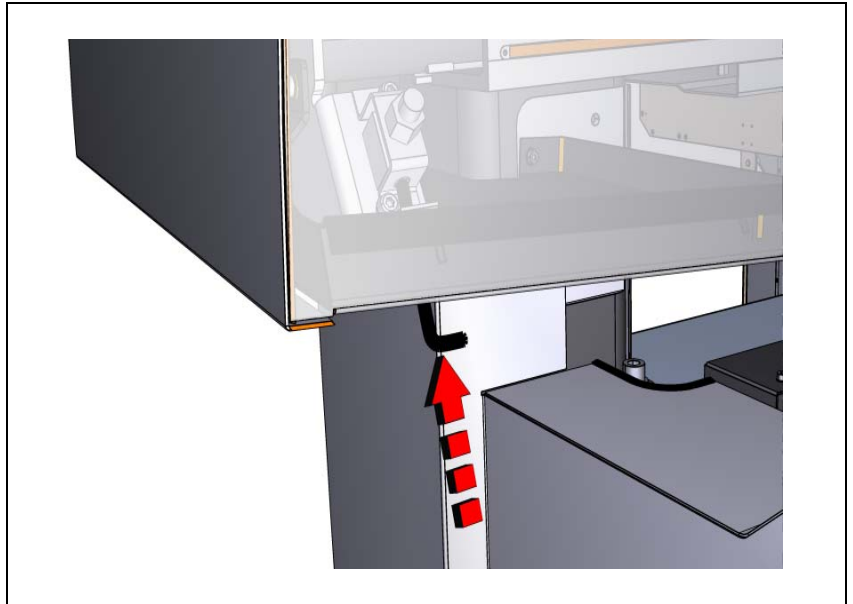

Figure 16-39. Opening the top hood.
1. Open the upper top hood by gently pressing a pointed object, for example an M6 Allen key through the holes and releasing the lock on each side of the upper hood. See Figure 16-39.